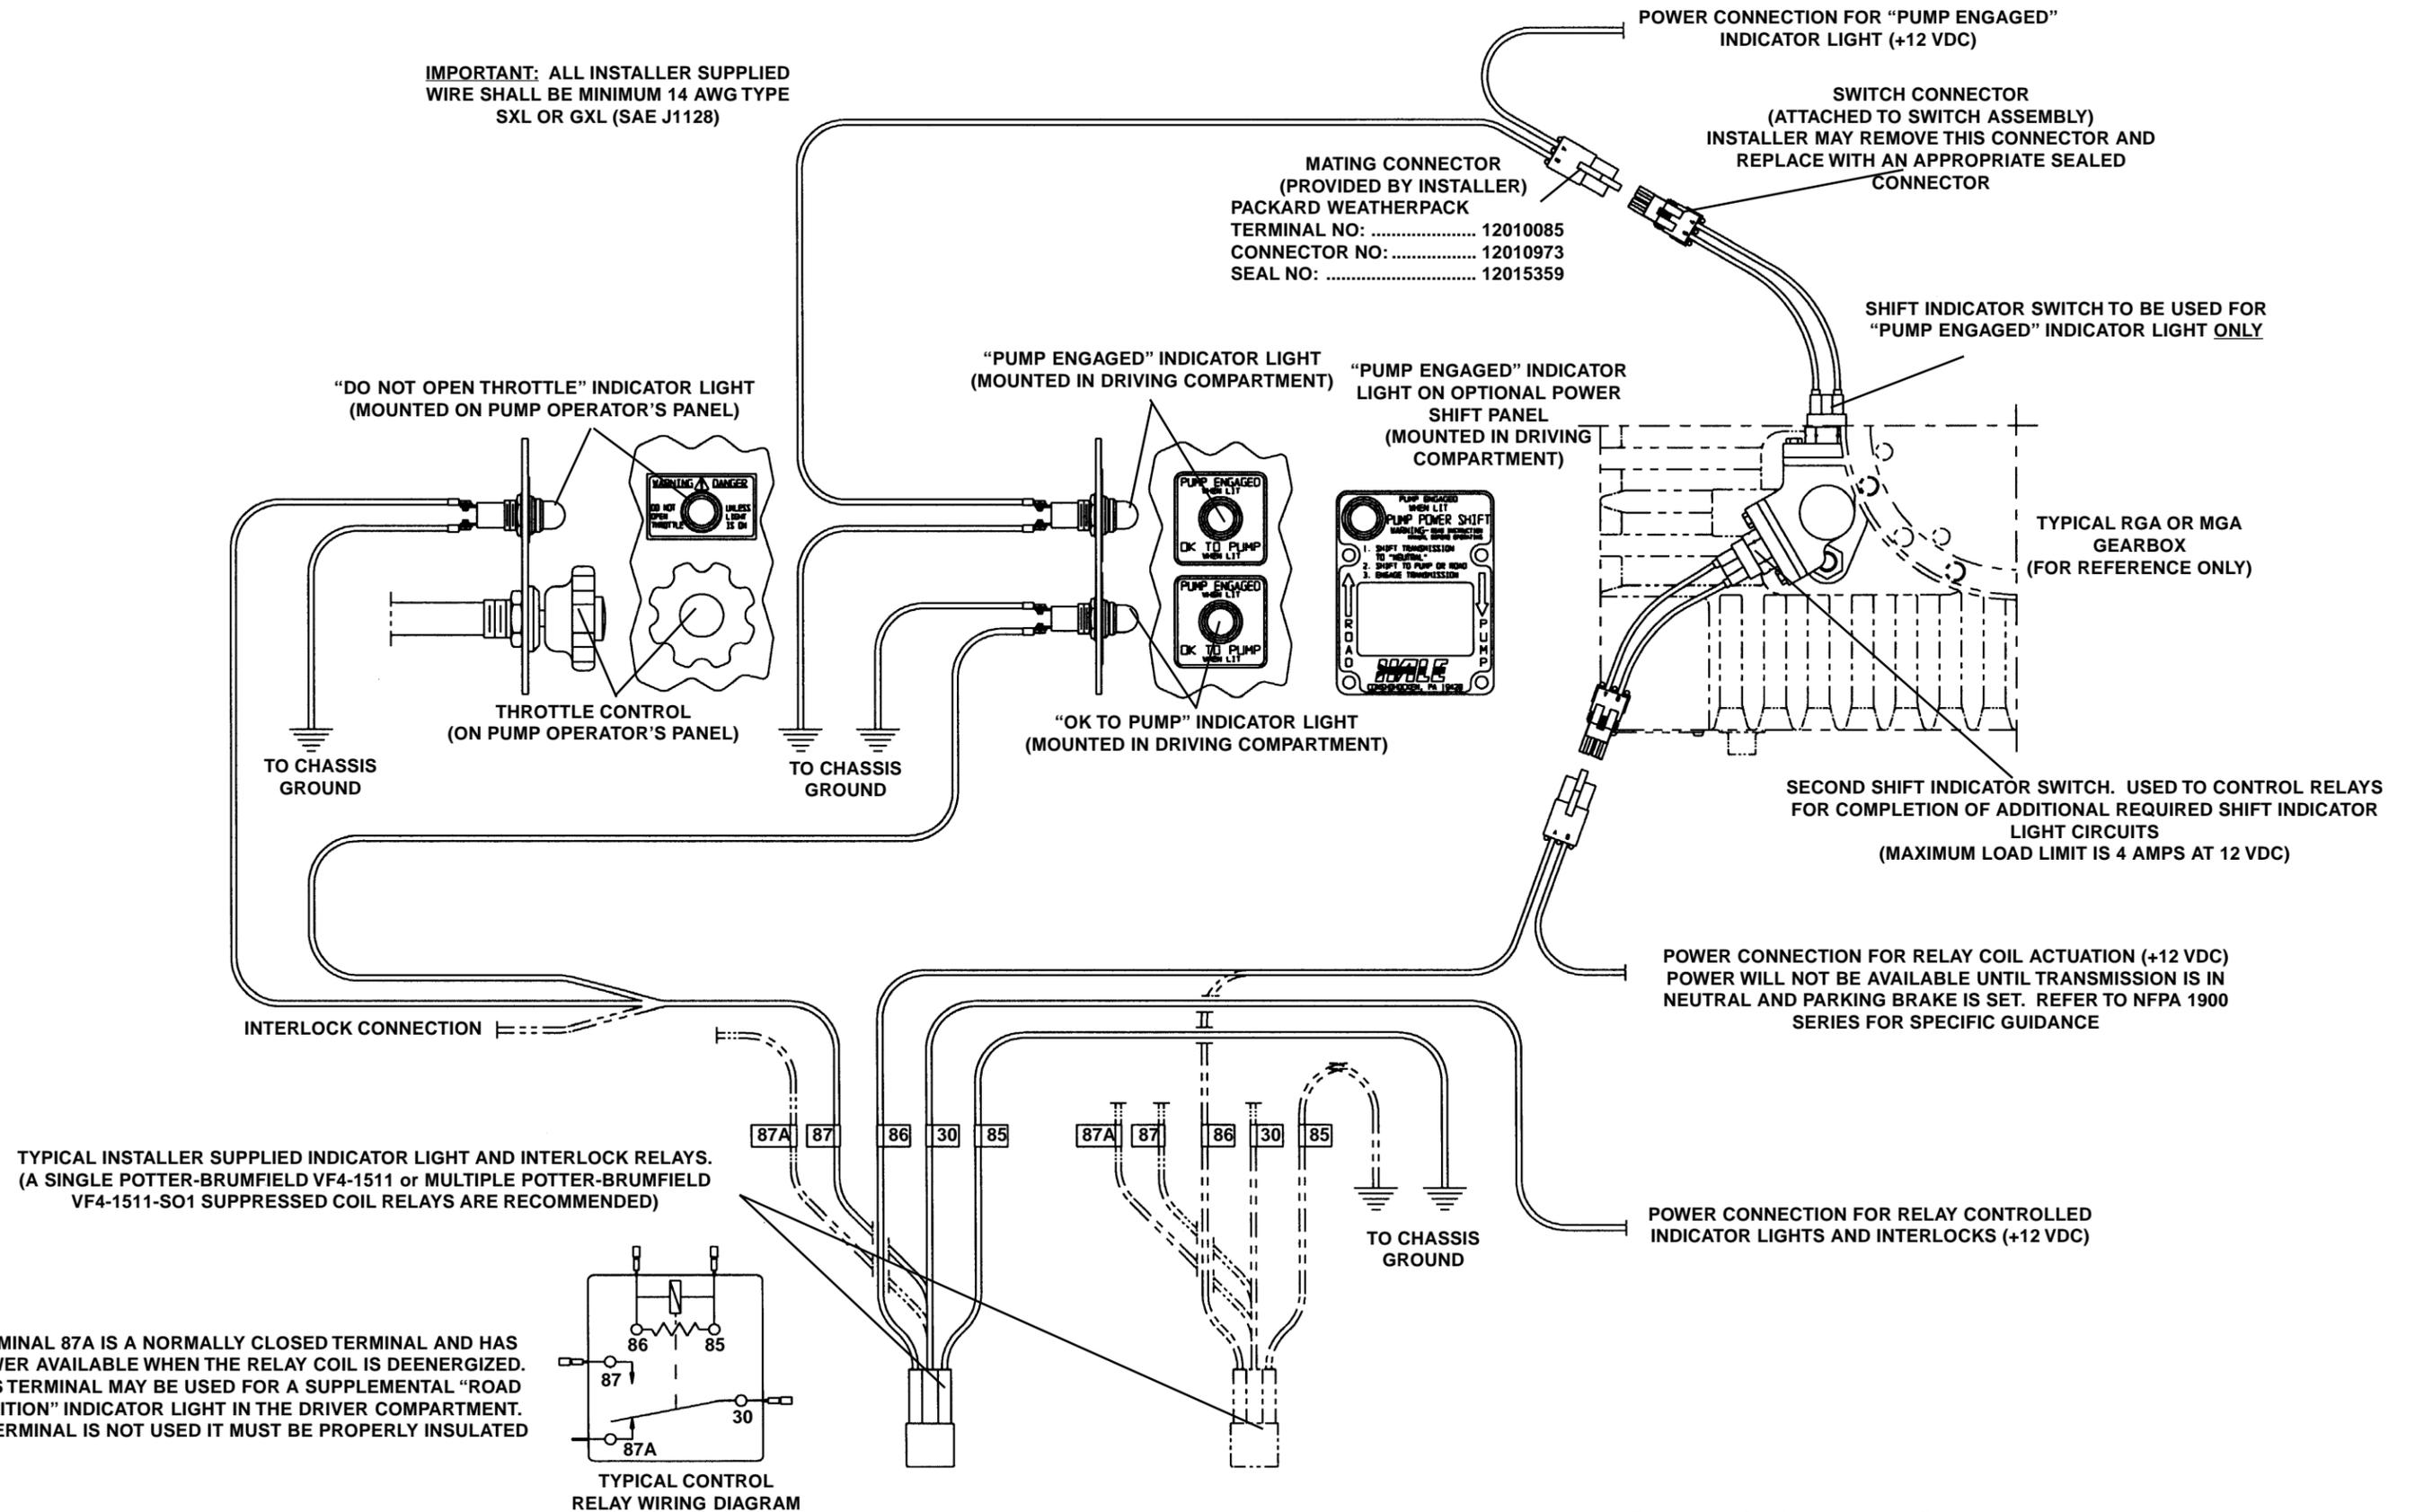

Figure 6. Typical Gearbox Shift Indicator Switch Wiring Diagram
16. Mount the indicator lights in the driver compartment and on the pump operator panel. A typical shift switch and indicator light wiring diagram is provided as figure 6.